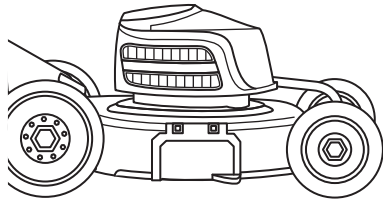

Fig. 5
2. Close the mulch door. The mower is now ready for mulching. (Fig.5)